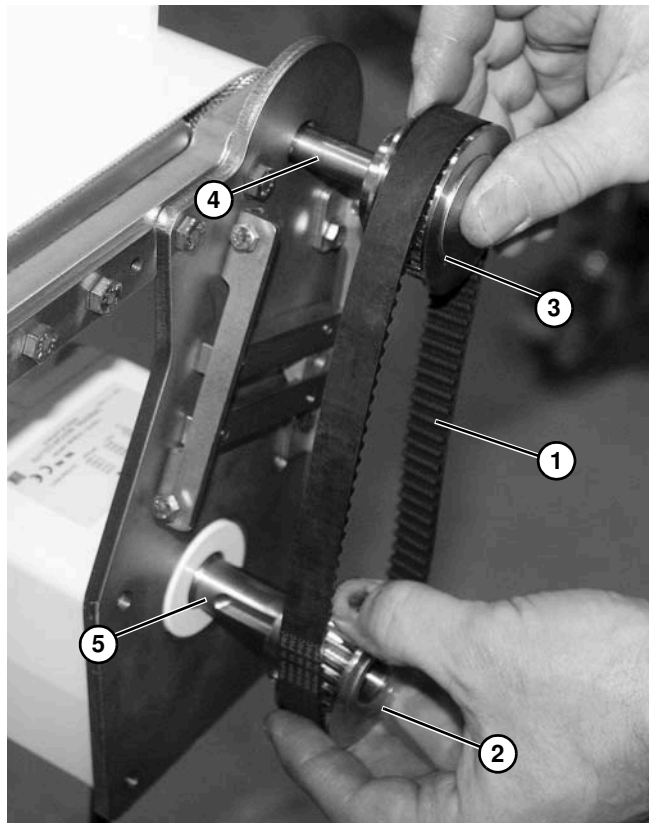

Figure 26
1. Install timing belt (**Figure 26, item 1**) over drive sprocket (**Figure 26, item 2**) and driven sprocket (**Figure 26, item 3**). Install timing belt and sprockets on conveyor input shaft (**Figure 26, item 4**) and gearmotor output shaft (**Figure 26, item 5**). Do not tighten sprocket set screws.